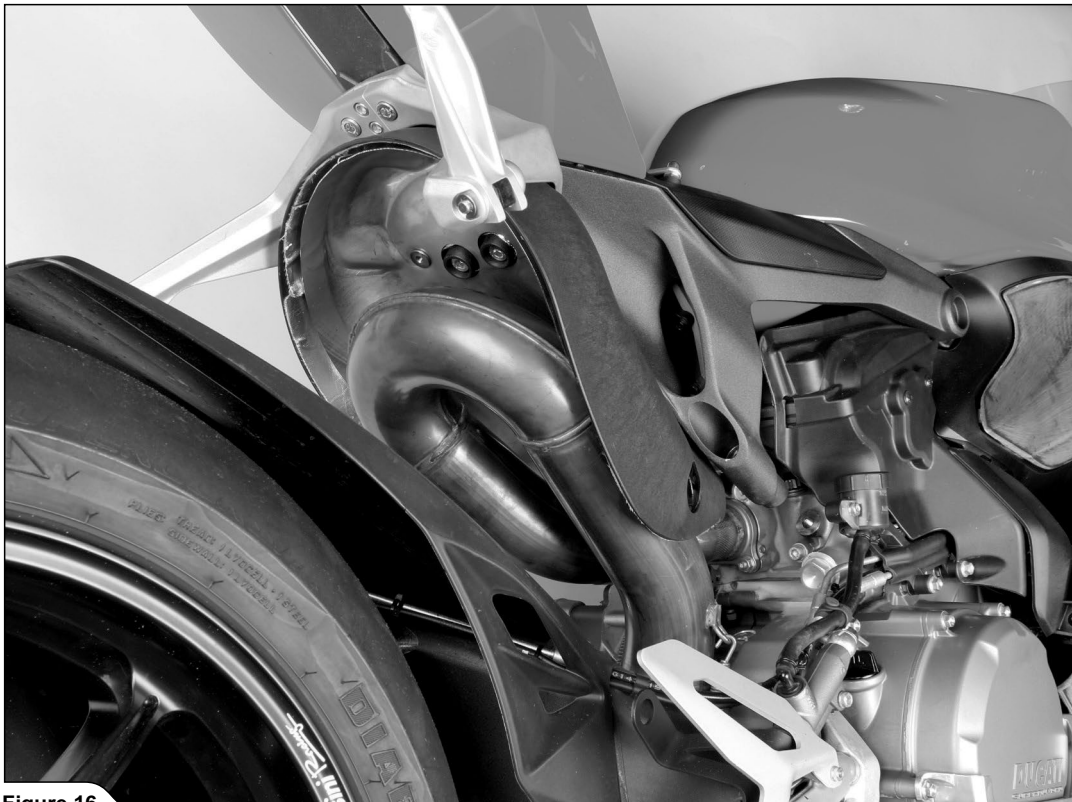

Figure 16
6. Carefully partially remove the complete rear end of the motorcycle as shown and secure it in that position (Figure 16).